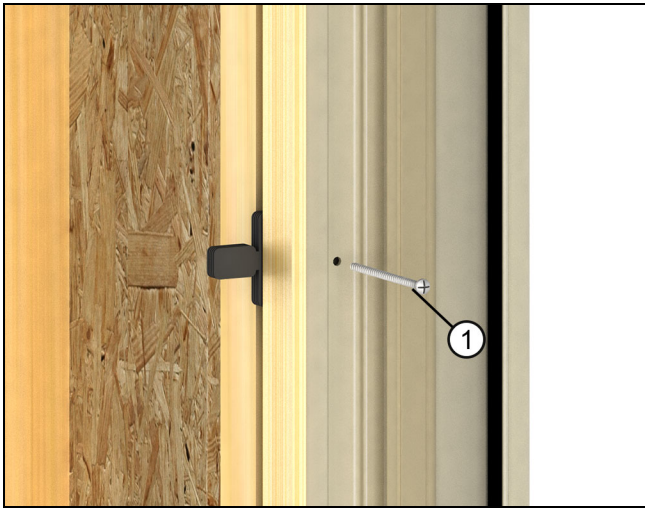

Figure 7
4. Using the #8 x 3" pan head screws, fasten jambs through pre-drilled holes. Make sure to add shims within 1"-2" of each hole location. See Figure 7. For more information on shimming, please refer to the general door installation instruction.